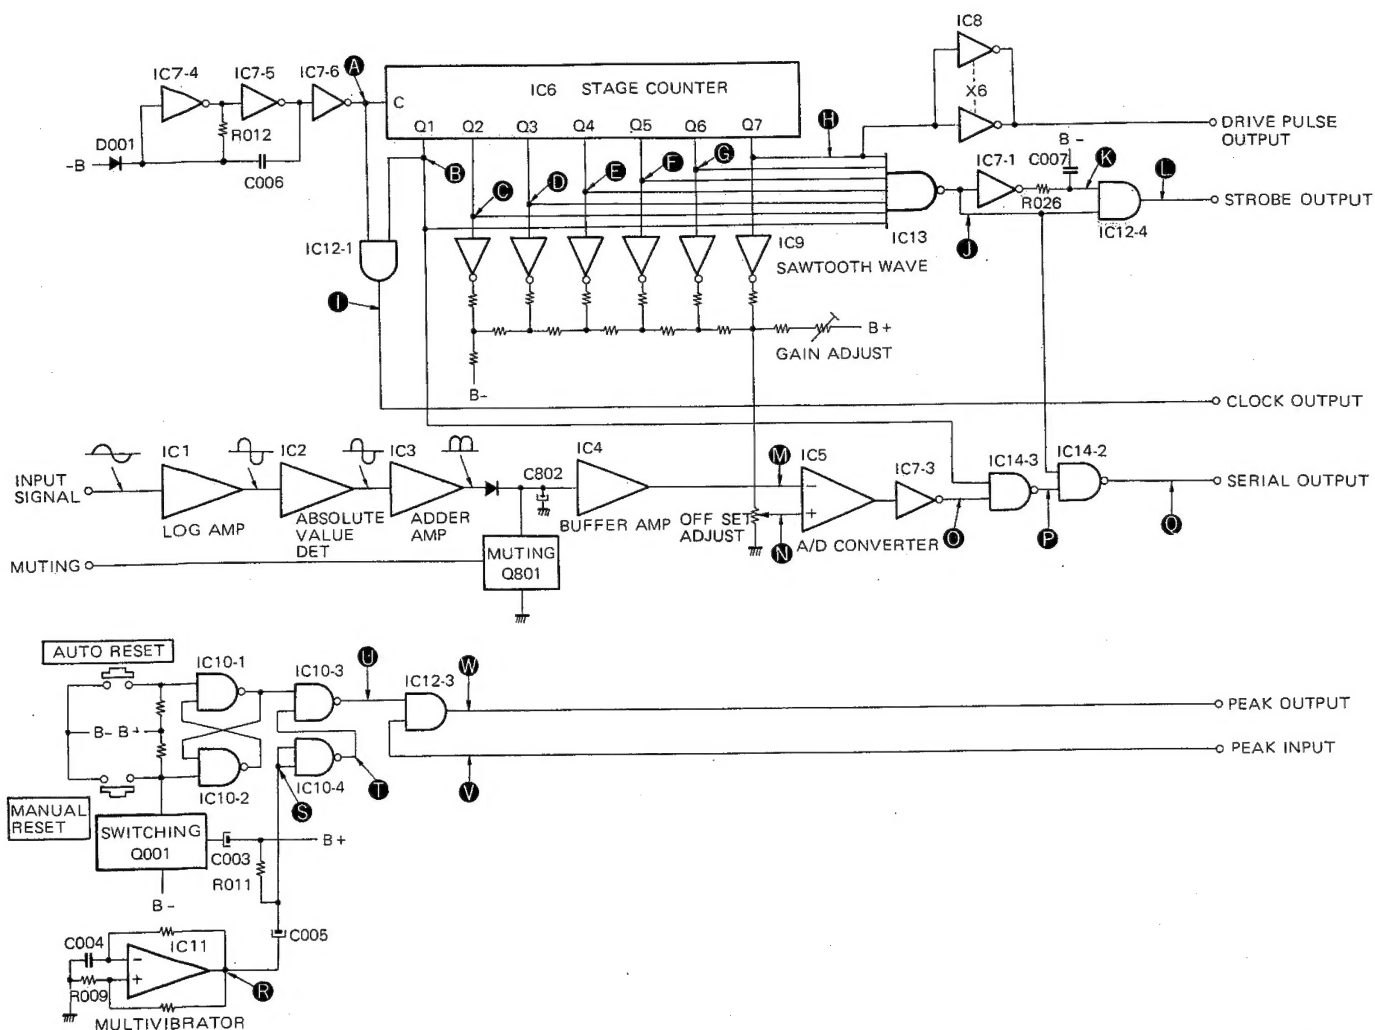

Fig. 1
#### 1. Basic Frequency Generator Circuits for Liquid Crystal Drive (See Figs. 1 & 2.)
## 2. A/D Converter Serial Signal Generator Circuit (See Figs. 1 & 3.)
3. Meter Mode Switching (See Figs. 1, 4 & 5)